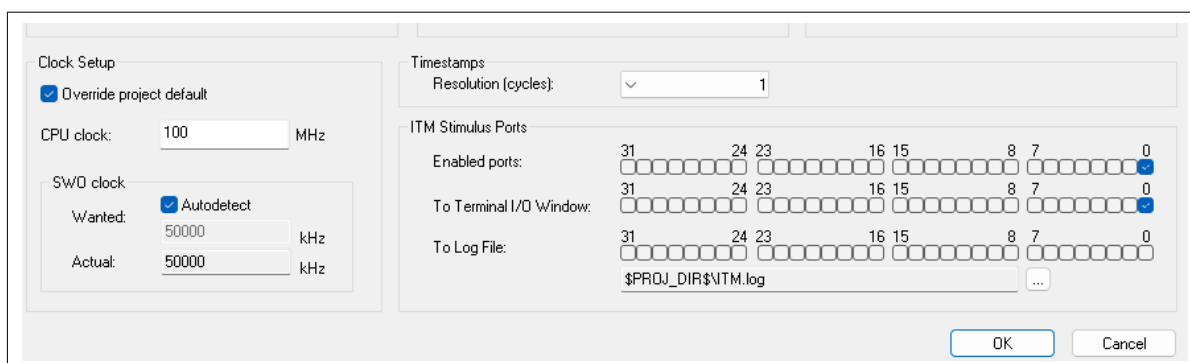

Figure 18 IAR SWO configuration for ITM
5. Go to **J-Link > SWO Configuration** and configure the ITM Stimulus Ports as shown in Figure 18